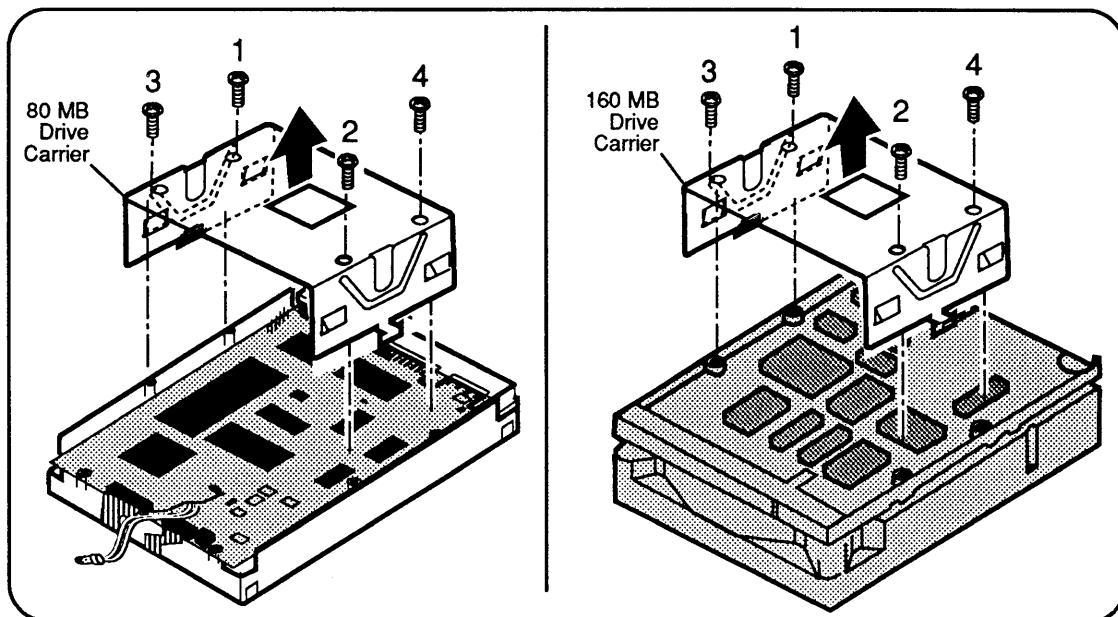

Figure 2-10 Hard Disk Assembly (HDA) and Carrier
7. Remove the hard disk drive from its metal carrier by removing the four Phillips screws on the bottom of the carrier (**Figure 2-10**).
CAUTION: *Screws that attach the 1-inch height drive to its carrier must be tightened in the order shown in **Figure 2-10** and torqued to 8.0 in-lbs.*